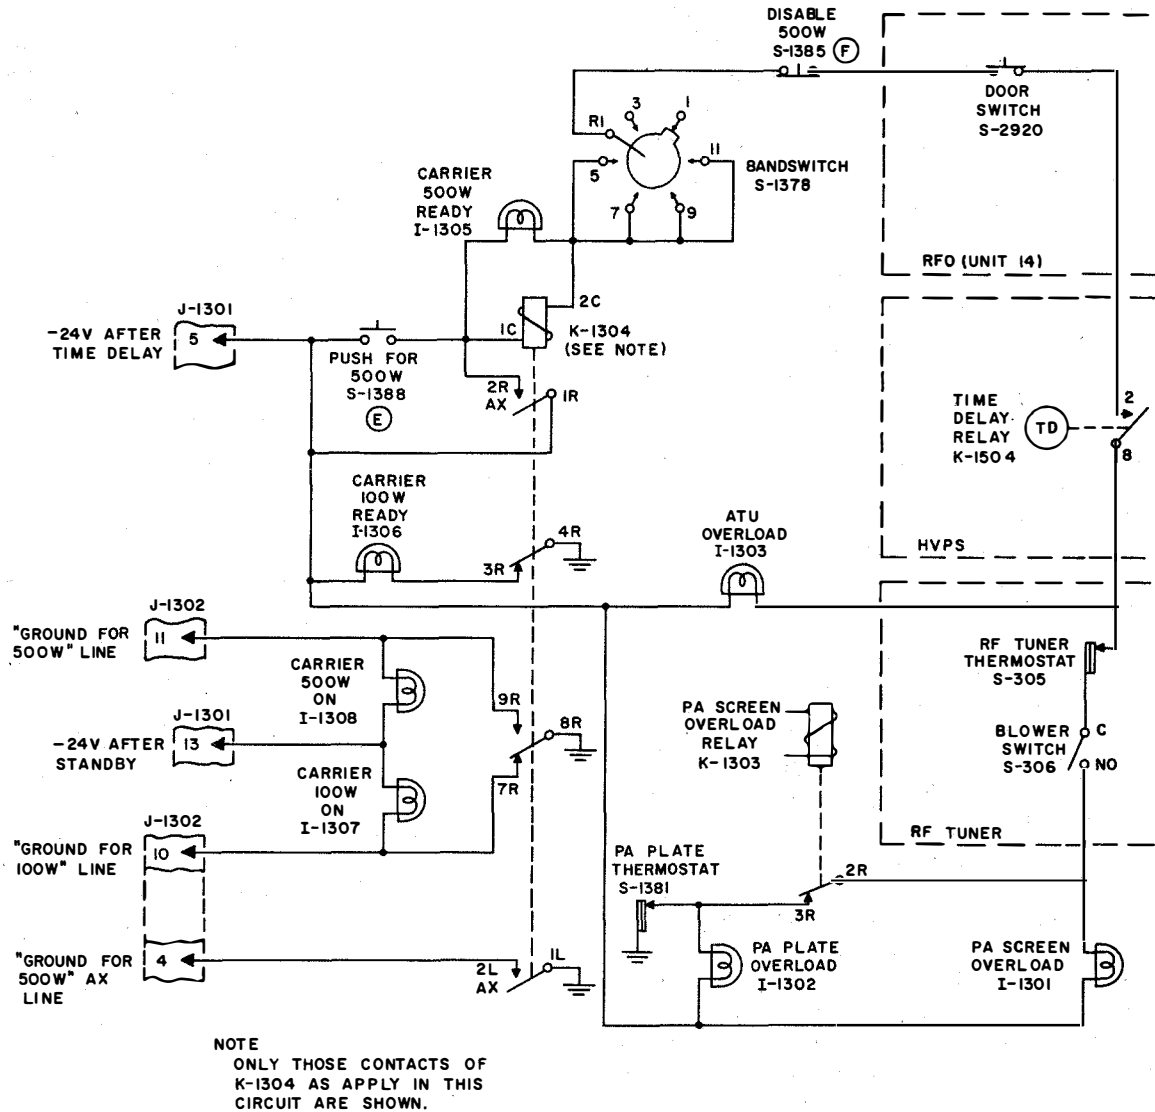

Figure 2-103. 500-Watt Operate Relay K-1304 and 500-Watt Disable Line, Simplified Schematic
and on in accordance with the keying voltages from the LLRM. Figure 2-95 is a block diagram of the RFA with the metering and control circuits left out for clarity. Control circuits are shown in detail in figures 2-103 and 2-104 with the metering circuit shown in figure 2-108.
(1) 500-WATT OPERATE RELAY K-1304 and "500 W DISABLE" LINE.—In addition to controlling the grid bias supply and screen grid supply of the PA for 500-watt or 100-watt operation (paragraphs 10d(1) and (2)), the 500-watt operate relay, K-1304 (figure 2-103), controls the "ground for 100 W" line and the "ground for 500 W" line, and "ground for 500 W" AX line.
The three overload indicators (I-1301, I-1302, I-1303) are connected from "-24 V after time delay" to ground obtained from the "500 W disable" line, in such a manner that the energizing of any one of the overload protective devices will cause one or more of the indicators to extinguish. Figure 2-103 shows that, if the PA plate thermostat, which is the first in the series chain of overload protection devices, opens, there will be no ground anywhere on the "500 W disable" line, and all three indicators will extinguish. However, if the PA screen overload relay, K-1303, energizes, the PA PLATE overload indicator, I-1302, remains illuminated while the other two indicators are extinguished owing to the fact that I-1302 is connected before K-1303 in the series chain. This same reasoning can be followed for the indications when the r-f tuner protective devices open.